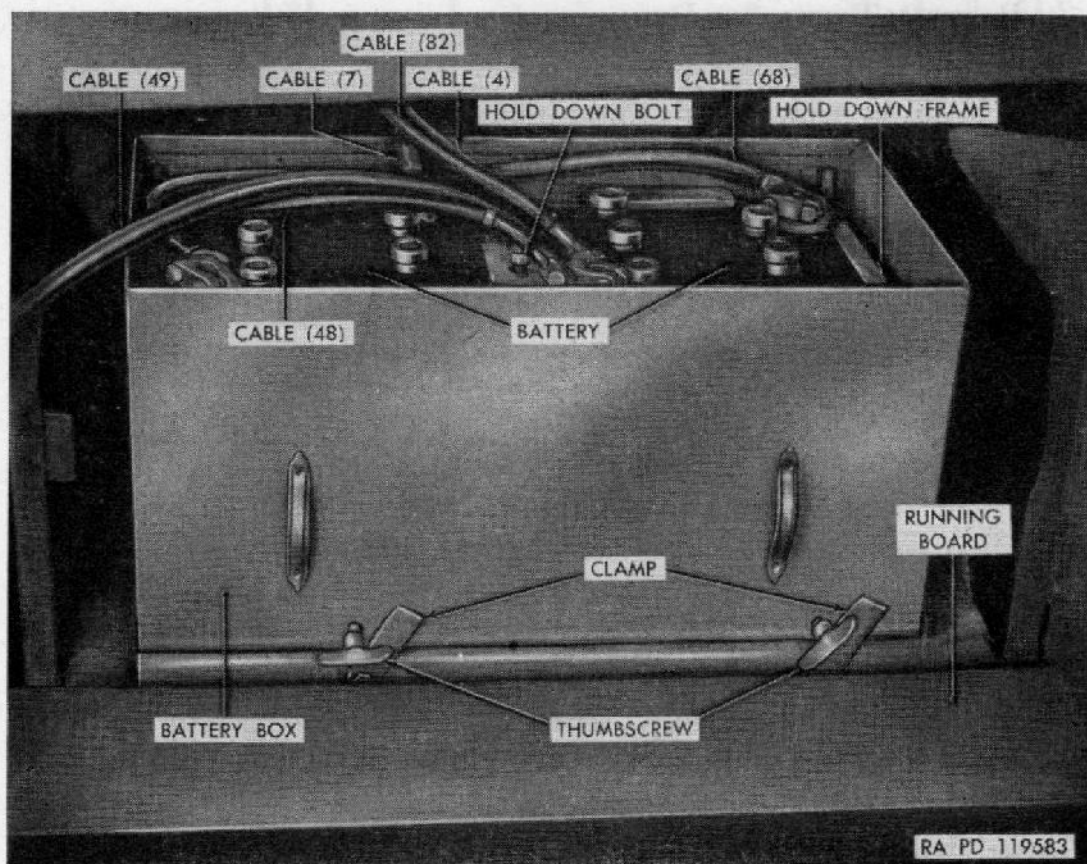
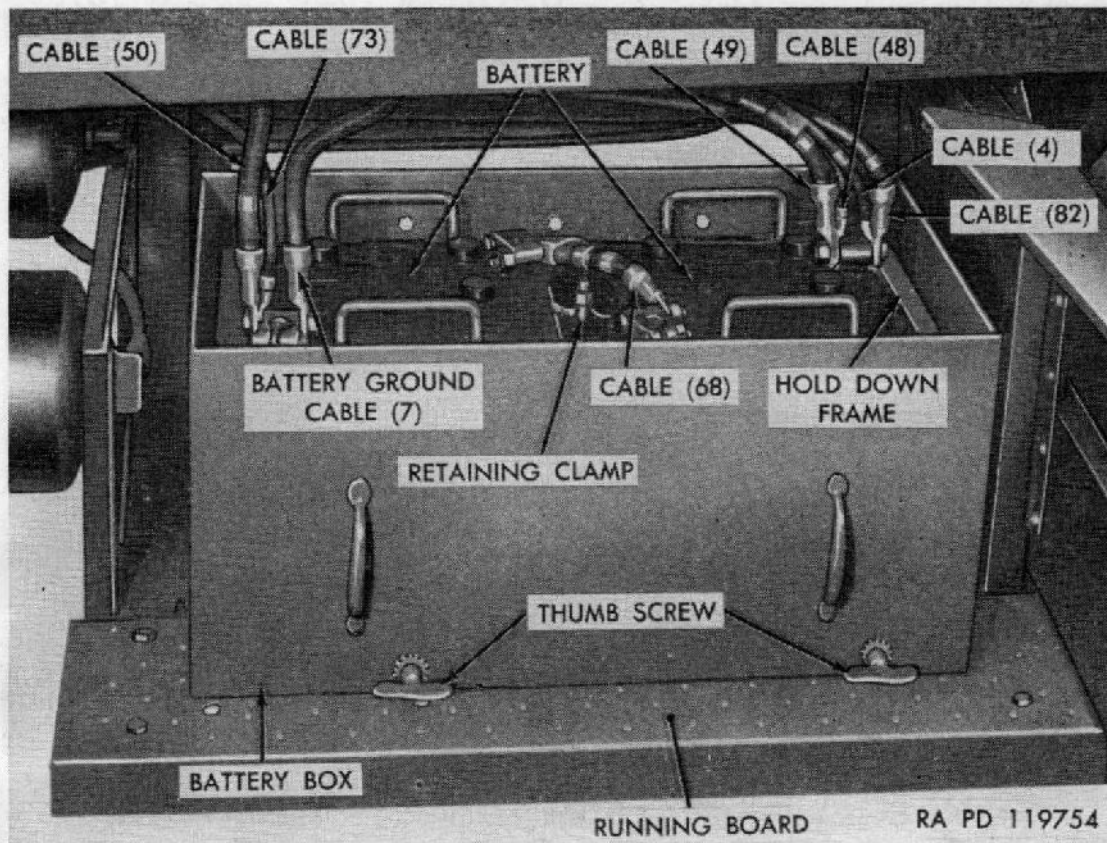

Figure 121. Battery installation—early M34 models.
Figure 122. Battery installation—Late M34, all M36, M47 and M59 models.
- (1) *Batteries and cables* (figs. 121 and 122). Two 12-volt, lead-acid-type batteries, connected in series, supply 24-volt electrical current for the truck. Batteries are located in a compartment on right side of truck, between running board and cab door. These batteries are submersible type with special vent plugs which prevent entrance of water into cells when battery is submerged. Terminals are waterproofed by packing with heavy asbestos grease at time of preparation for fording operations (par. 53). Two arrangements of batteries and compartments have been used. A few early M34 models were equipped as shown in figure 121. Later models M34, and all M36, M47, and M59 are equipped as shown in figure 122. Waterproof cables and harness assemblies are used for all battery connections.
- (1) *Specific-gravity test.* Specific-gravity testing of the battery electrolyte (battery fluid) determines the state of charge in each battery cell. Use a hydrometer and thermometer and correct hydrometer reading for temperature. A corrected specific-gravity reading of 1.285 in each cell indicates a fully-charged battery. A specific-gravity reading 1.225 or less in each cell indicates that battery must be recharged or replaced.
- (2) *Voltage test.* Because of the sealed construction of the submersible type batteries used in this truck, cell-voltage tests cannot be made.
b. INSPECTION (figs. 121 and 122). Battery box can be pulled out onto running board for inspection of batteries. Figure 121 shows the installation on some early M34 trucks with the battery box in normal position. Figure 122 shows the later installation used on most M34 and all M36, M47, and M59 trucks with the battery box pulled out on the running board. To inspect batteries, loosen the two thumb screws, push holding clamps (fig. 121) down to clear bottom of battery box, and pull out box (fig. 122).
Loosen battery retaining clamp bolts and remove battery hold-down frame (figs. 121 and 122). Lift batteries from box.
d. **INSTALLATION.** Position batteries in box. Note that in early installations positive terminals were at front of box (fig. 121), while in later installations the negative terminals are at front (fig. 122). Position hold-down frame and install retaining clamp bolts.
On early installations, cable (7) is connected to negative terminal of rear battery, interconnection cable (68) between positive terminal of rear battery to negative terminal of front battery, and cables (4, 48, 49, and 82) to positive terminal of front battery (fig. 121). In the later installations, cables (7, 50, and 73 when used) are connected to negative terminal of rear battery. Cable (68) is connected between positive terminal of rear battery and negative terminal of front battery. Cables (4, 48, 49, and 82 when used) are connected to positive terminal of front battery (fig. 122). Push battery box back into compartment, arise clamps to engage thumb screws, and tighten screws.